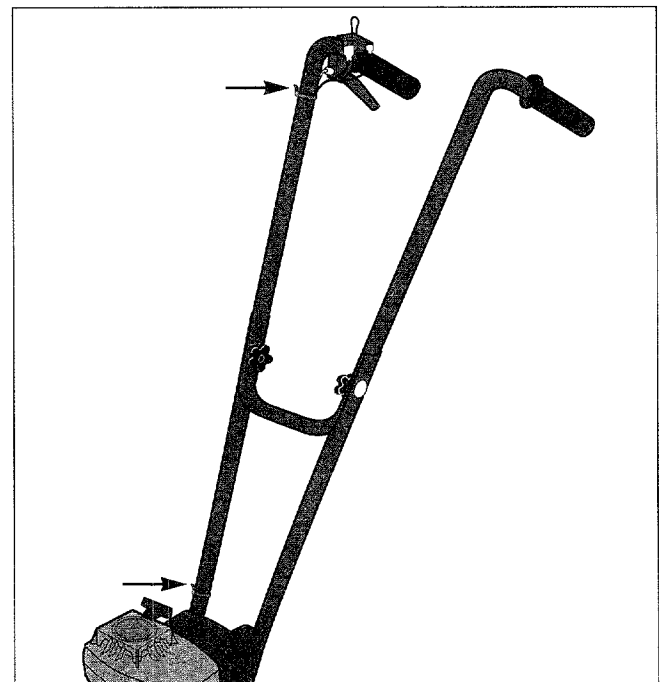

Figure 9: Install plastic ties.
18. Secure the throttle cable and the On/Off switch wires to the lower and upper handlebars with two plastic ties (Figure 9). The serrated side of the ties should be on the inside when you loop the tie around the handlebar, wire and throttle cable. Tighten the tie by pulling on its loose end. Snip off any excess tie length.